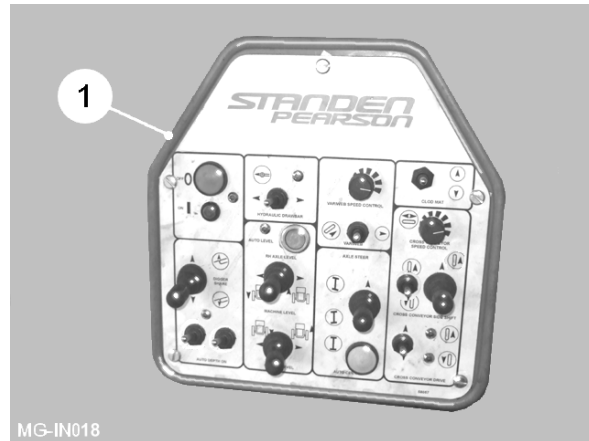

Fig 4
Mount the control box (item 1, fig 4) securely inside the tractor cab in a position where it is comfortable to operate when seated. Connect the machine control harness between the control box and machine ensuring it is safely routed into the tractor cab. Connect the control box power supply cable to the tractor's 12V d.c. electrical plug (if fitted) or directly to the tractor battery, blue lead to negative (-) brown lead to positive (+). **The electrical equipment should only be connected to a 12V d.c. supply.**